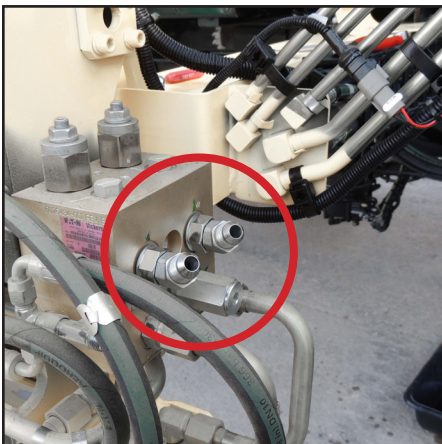

Figure 12
18. Remove the two 10-8 fittings on the manifold and replace with the new 10-8 fittings (P/N 1131607) (Figure 12). Tighten until snug.